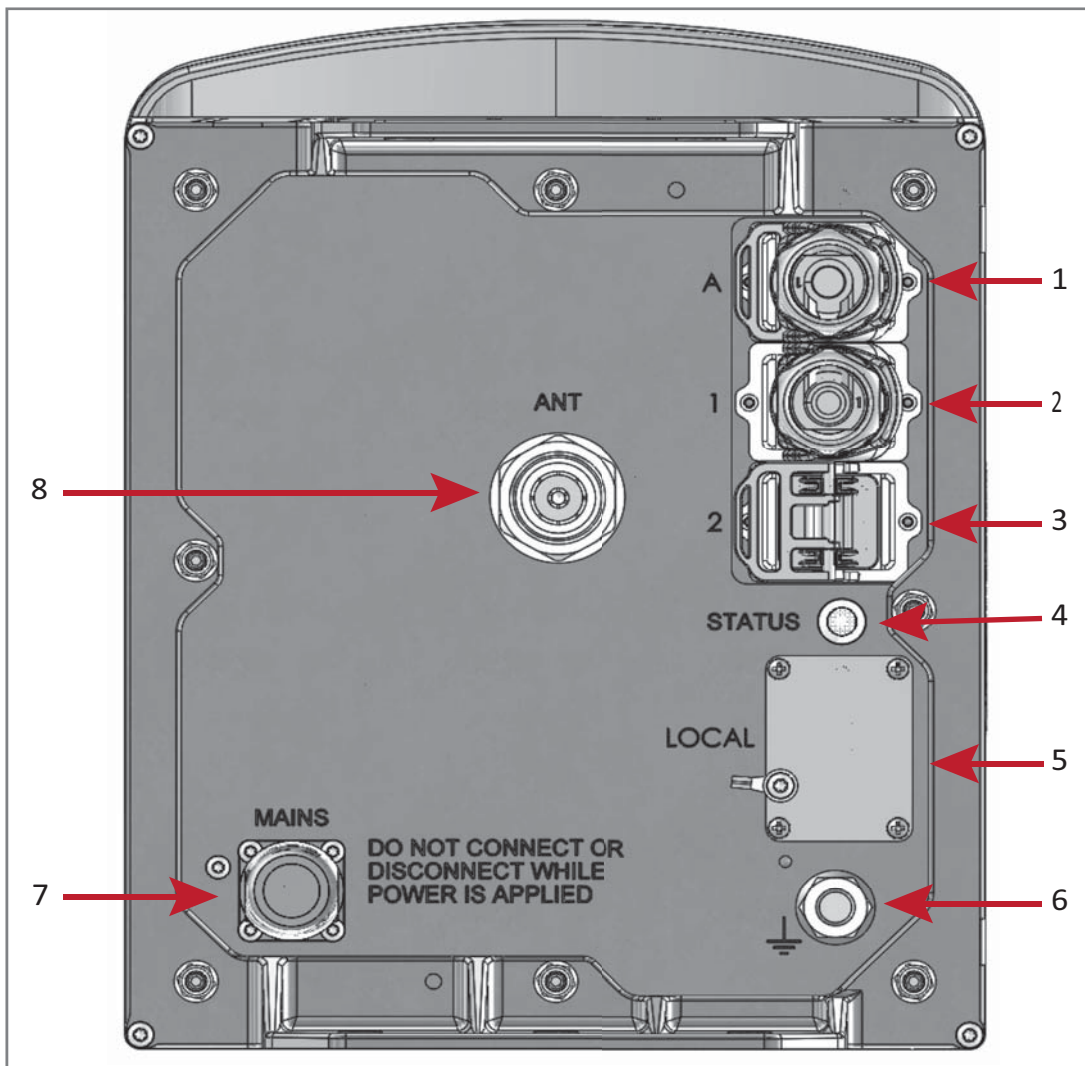
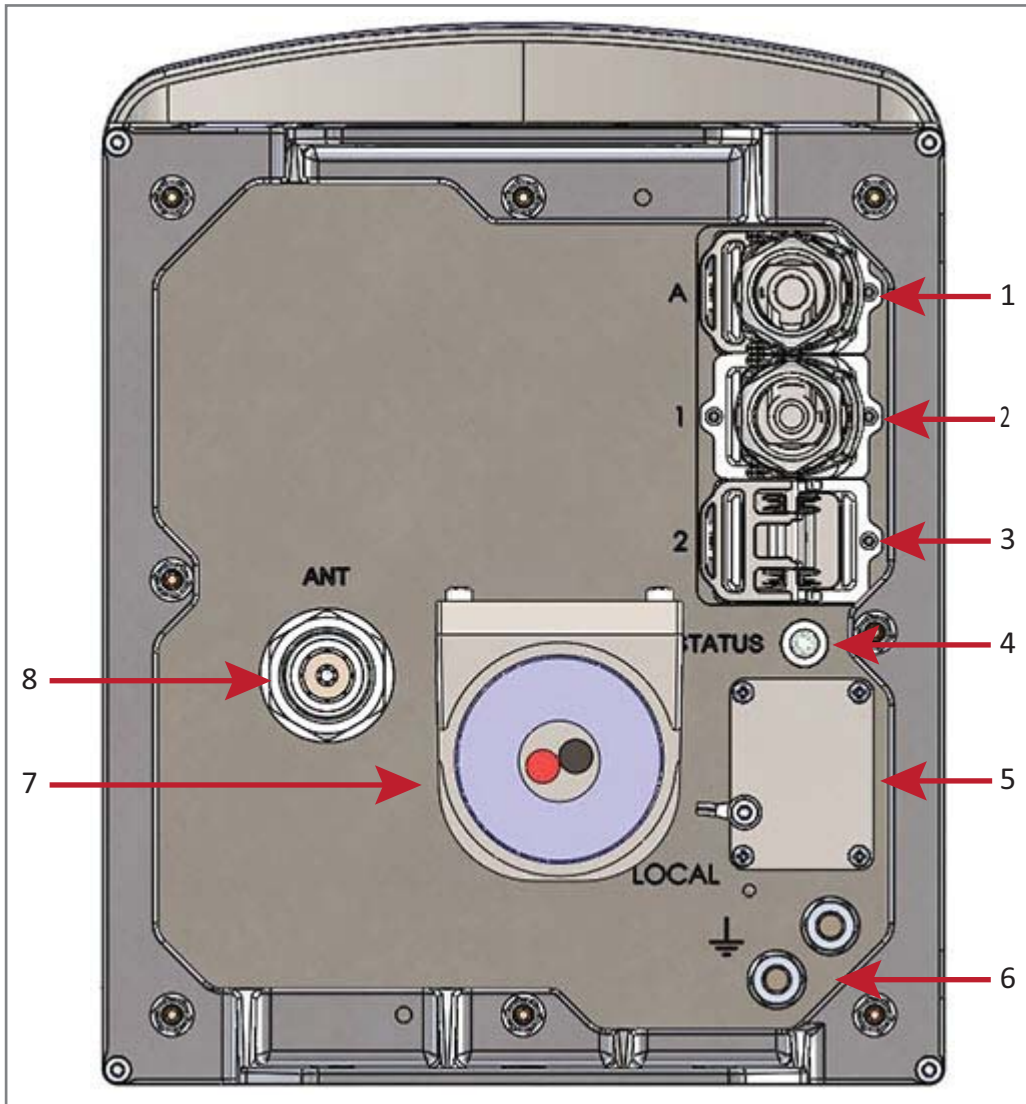
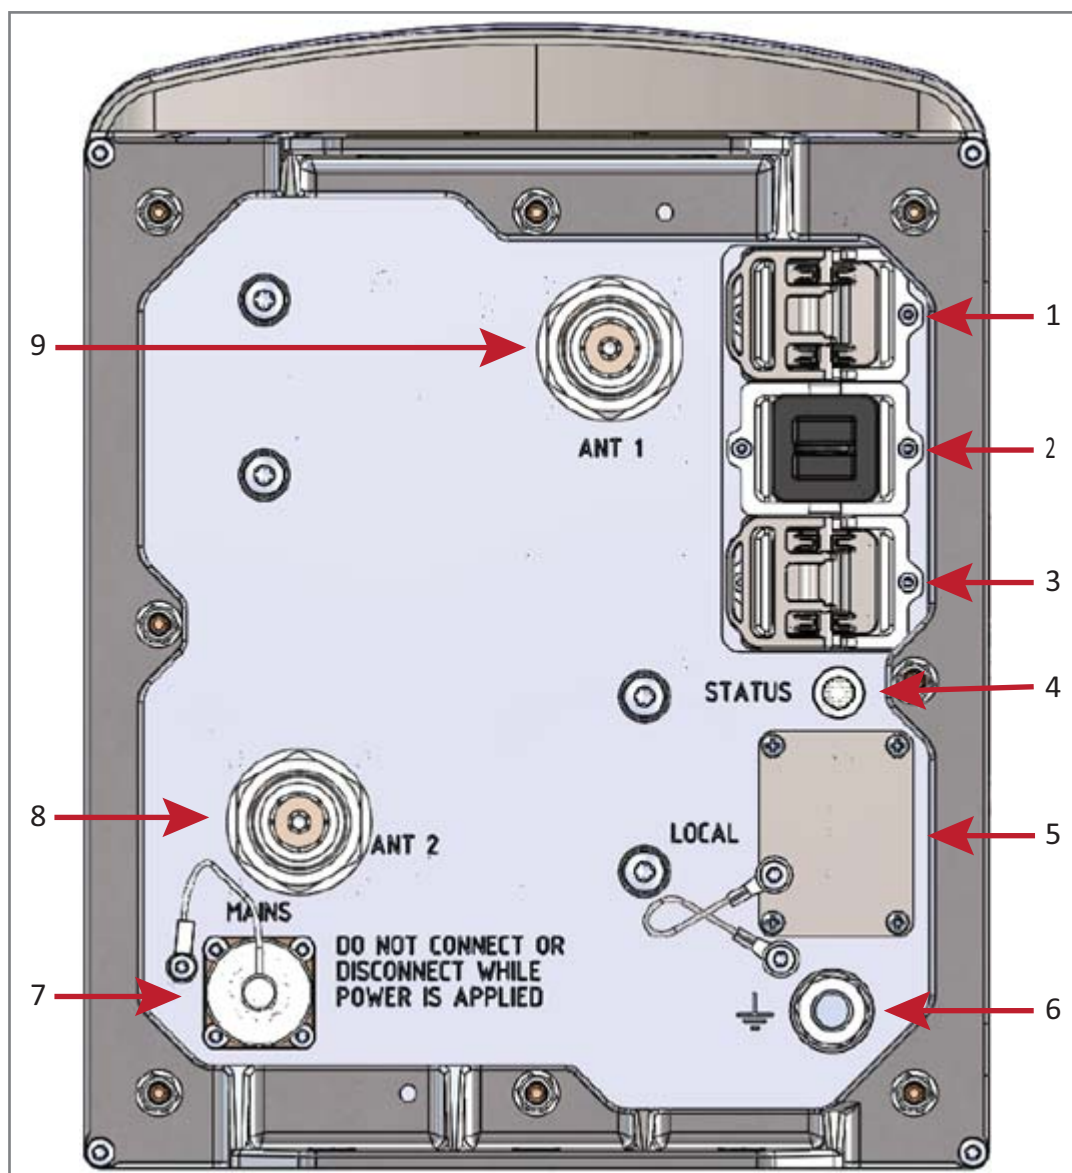
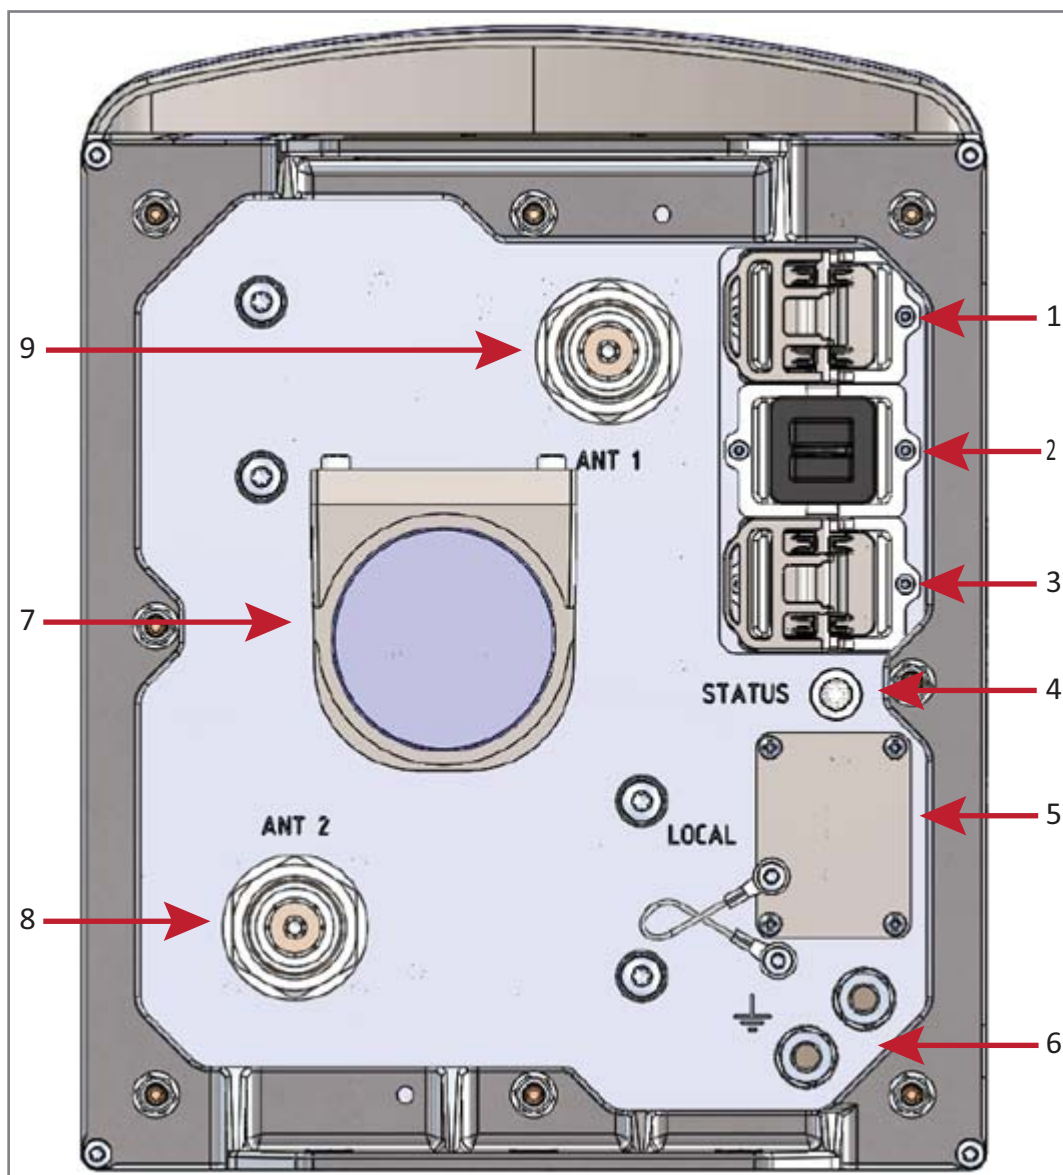

Figure 2. Location of Connectors and LED on AC Version with One Antenna Connector
Figure 3. Location of Connectors and Status LED on DC Version with One Antenna Connector
Figure 4. Location of Connectors and Status LED on AC Version with Two Antenna Connectors
Figure 5. Location of Connectors and Status LED on DC Version with Two Antenna Connectors
- Figure 2 shows the connectors on an AC version of the CAP H that has one antenna connector.
- Table 2 on page 7 maps the callouts in Figure 2 and Figure 3 on page 8 and describes the connectors and STATUS LED.
- Figure 3 on page 8 shows the connectors on a DC version of the CAP H that has one antenna connector.
The "REF #" column in Table 2 refers to the callouts in Figure 2 on page 6 and Figure 3 on page 8.
- Figure 4 shows the connectors on an AC version with two antenna connectors.
- Table 3 on page 10 maps the callouts in Figure 4 and Figure 5 on page 11 and describes the connectors and STATUS LED.
- Figure 5 on page 11 shows the connectors on a DC version with two antenna connectors.
The "REF #" column in Table 2 refers to the callouts in Figure 2 on page 6 and Figure 5 on page 11.